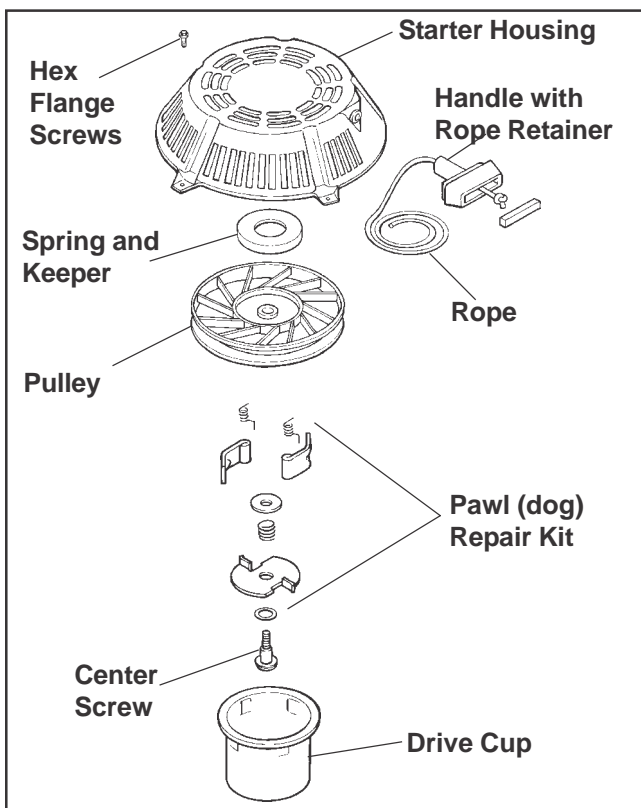

Figure 7-1. Retractable Starter - Exploded View.
- Replace all worn or damaged components. Use only genuine Kohler replacement parts as specified in the Parts Manual. All components shown in Figure 7-1, are available as service parts. Do not use nonstandard parts.